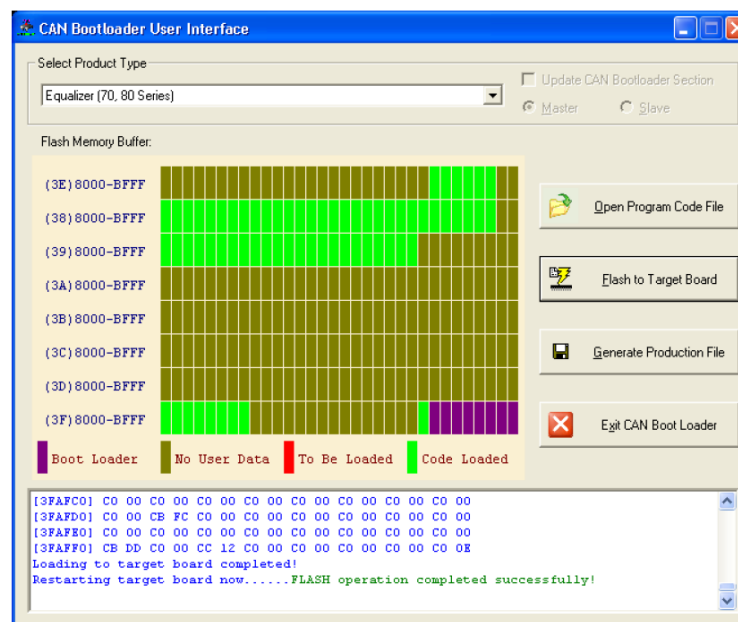

Figure 9: CAN Bootloader User Interface – Flashing operation completed successfully
10. Wait until all red blocks turn into green and a successful message is displayed at bottom. Refer to Figure 9.